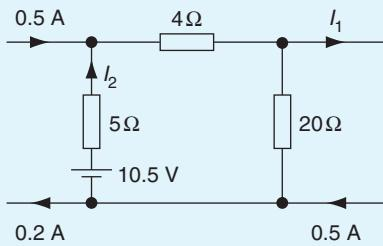

Figure 13.13
3. Calculate the currents  $I_1$  and  $I_2$  in Fig. 13.13.